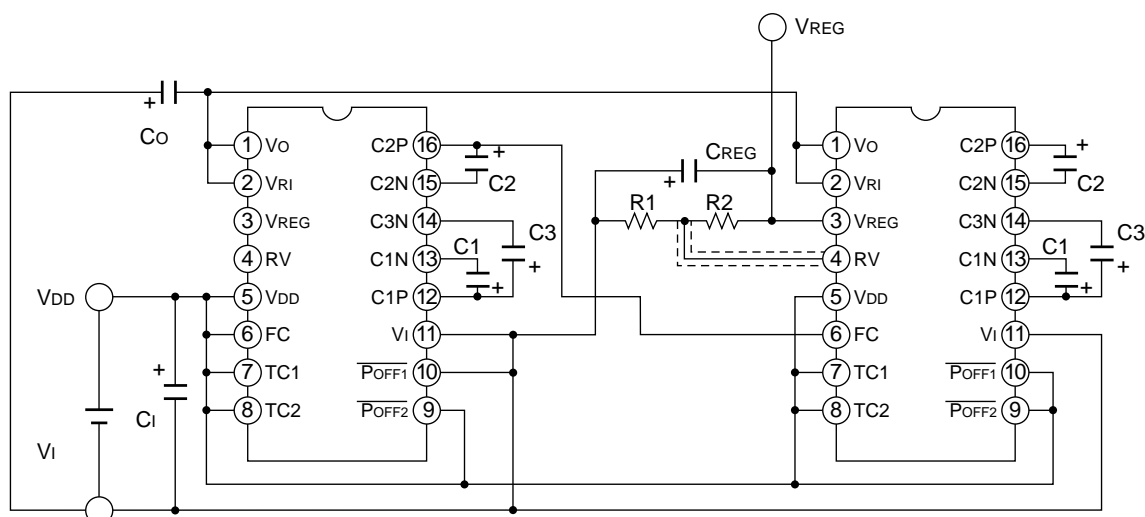

Figure 2.11 Parallel connection example
S1F76540 chips which are in parallel connection. (If multiple regulators are operated in parallel mode, the reactive current consumption occurs.) Figure 2.11 gives a wiring example of 4-time booster and regulator where two S1F76540s are parallelly connected.
◇ Setup conditions of Figure 2.11
- In Figure 2.11, when the $\overline{\text{POFF2}}$ pin of the first-stage S1F76540 is set to low (V_I), voltage boosting is stopped at the first and second stages. However, the regulator at the second stage does not stop. Therefore, the voltage that is approximately V_I appears at V_{REG} pin during $|V_{\text{REG}}| > |V_I|$ setup.